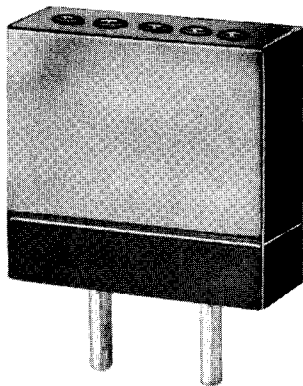

Figure 1-7. Type CR-2-B/U (200kc) Crystal Unit
c. The Type CR-2-B/U (200 kc) Crystal Unit (figure 1-7.) is mounted in a two prong holder for convenience in mounting in the crystal oscillator calibration unit.